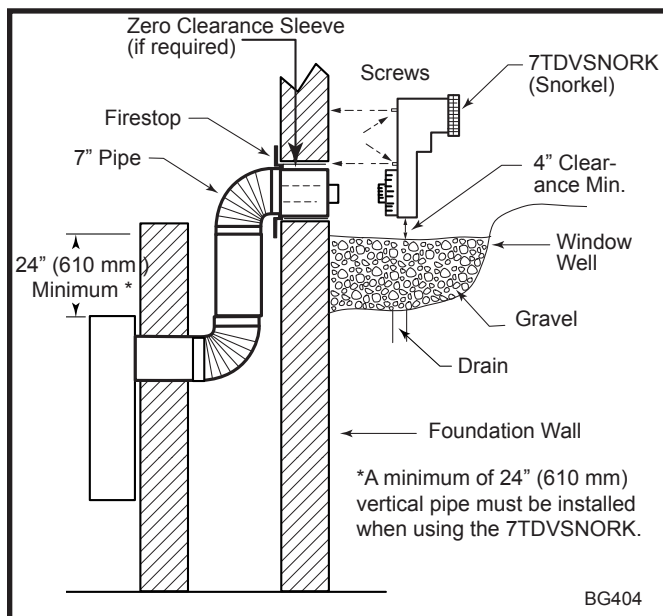

Fig. 23 Below grade installation.
2. Remove soil to a depth of approximately 16" (406 mm) below base of snorkel. Install window well (not supplied). Refill hole with 12" (305 mm) of coarse gravel leaving a clearance of approximately 4" (102 mm) below snorkel. (Fig. 23)
7. Level the soil to maintain a 4" (102 mm) clearance below snorkel. (Fig. 23)